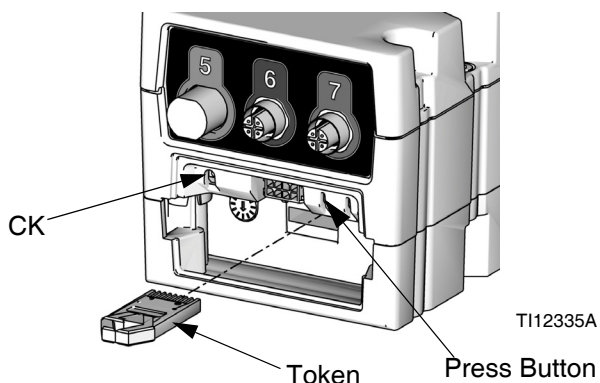

FIG. 51: Insert Token
4. Press and hold the button shown in FIG. 51 for ~1 second, then release. The red indicator light (CK) will flash until new software is completely loaded.